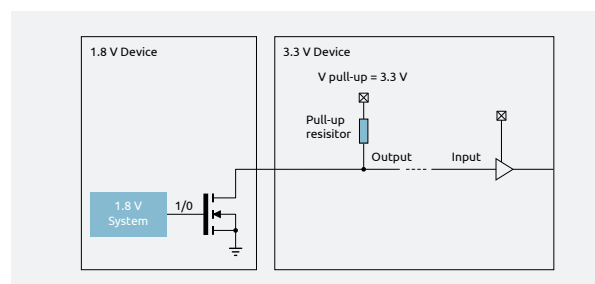

Fig. 31 Open drain outputs simplified schematic and example of utilisation.
- › Open drain outputs, enables low to high and high to low level translations (Fig. 31)